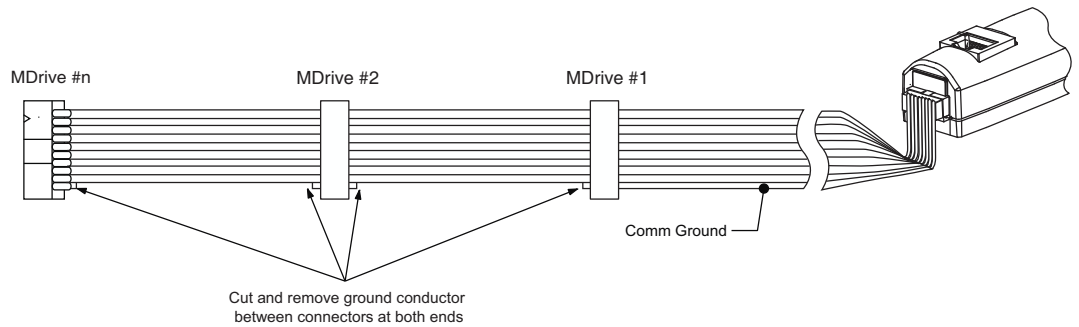

Figure D.3: Configuring the MD-CC400-001 for Multi-drop (Party Mode) Communications
2. Remove the ground conductor (Pin 10) between all connectors except the connector for the first MForce in the daisy chain. This is to prevent communication errors and and potential damage due to ground loops. See Figure D.3